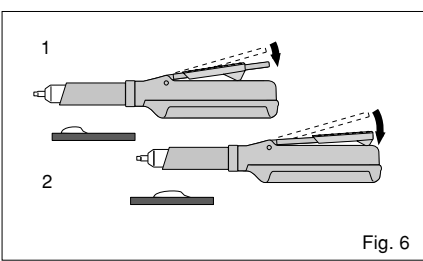

Fig. 6
- 2) The finger grip can be moved forwards or backwards to change the quantity of material to be dispensed. (Fig. 6)